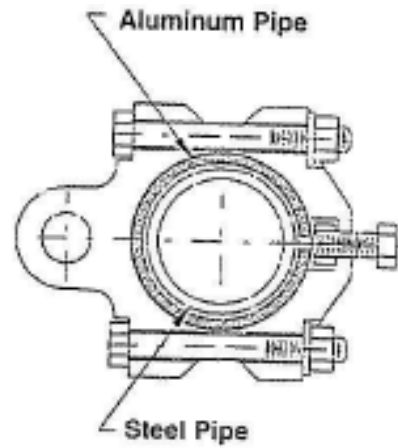

Figure 12: Piercing Pipe Wall
- Tighten setscrews until pipe wall is pierced - **Figure 12**